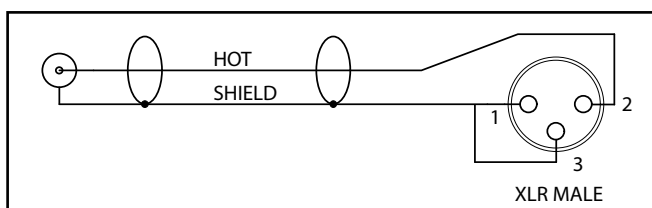

figure 2 - Unbalanced input cable
- 5) *If the generator has an unbalanced output, refer to figure 2 below for termination information*